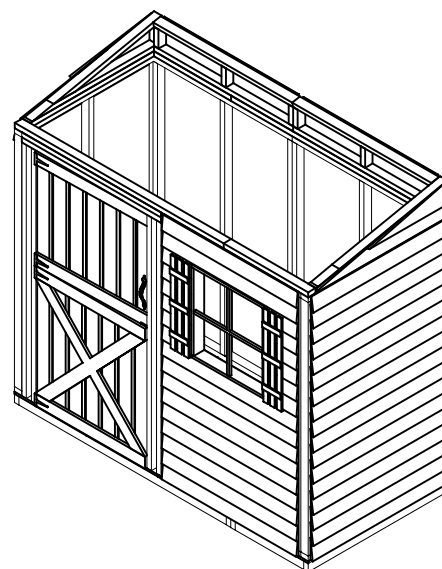
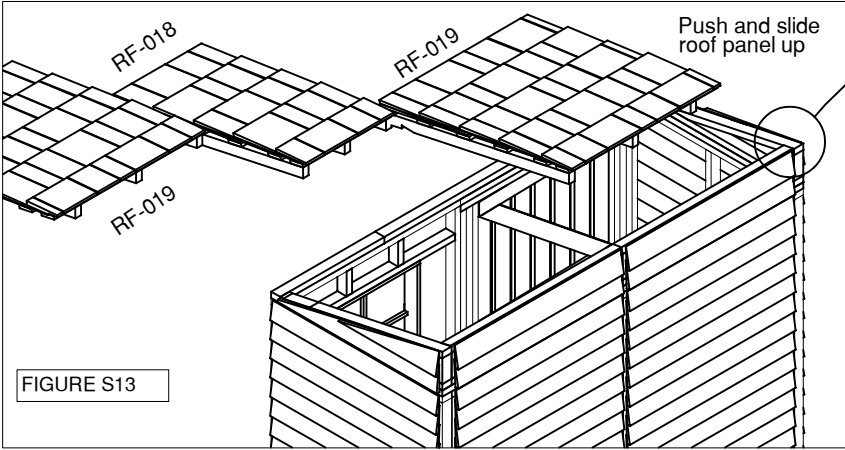

FIGURE S12
FIGURE S13
- When all the Walls and Top Plates are in place, you will now attach the two Roof Gables and the two Infill Walls with 3" screws (FIGURE S12 and FIGURE S13). Use 2 - 3" screws to attach gable and infill walls together at each joint and use 3 - 3" screws to attach each gable and infill wall to top of the walls,